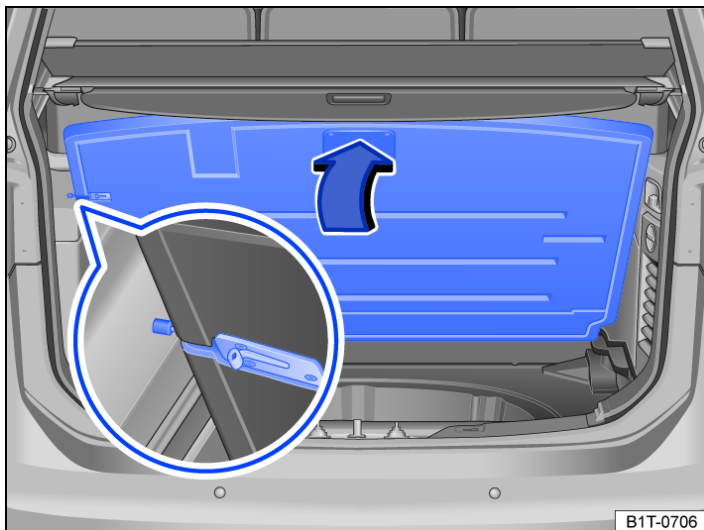

Fig. 2 In the luggage compartment: luggage compartment floor folded up.
2. Release the retaining pin → *fig. 2* (magnifying glass) to the left and place on the left hat shelf.
1. Press the retaining pin → *fig. 2* to the right.